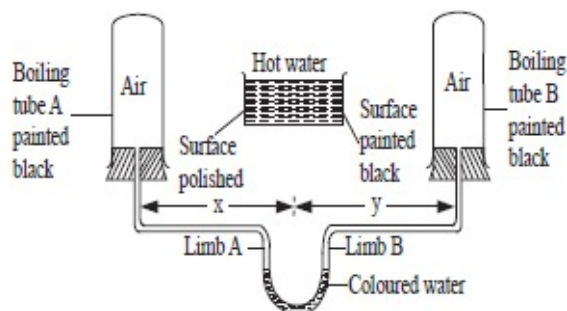

Fig. 7.25: Comparing emission of radiant heat
- Set up the apparatus as shown in figure 7.25 and ensure that: